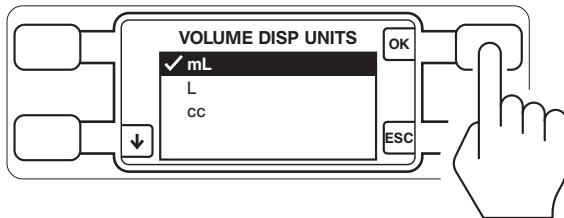

Figure 19 Sample System Setting Screen
- Push the button next to the OK icon to select the appropriate system setting option (Figure 19). Push the button next to the ESC icon to cancel the selection and exit the screen.